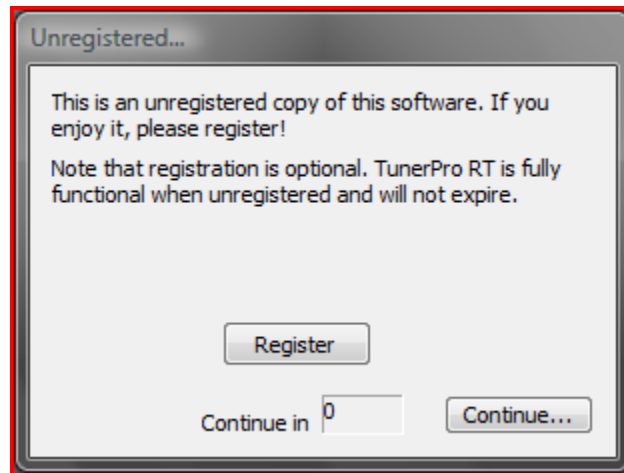

Figure 1: Registration Pop-up
TunerPro RT is a free program that can be downloaded from <http://tunerpro.net/downloadApp.htm>. TunerPro is the base application, and TunerPro RT is the full version. The only difference between the two is that TunerPro RT has a “nag” window that disappears after 10 seconds after startup wanting to be registered, like in Figure 1 below:
- a. If the bike did not auto-connect then select the gray cable at the top of TunerPro RT (titled “Initialize Emulation Hardware,” also in Figure 1).